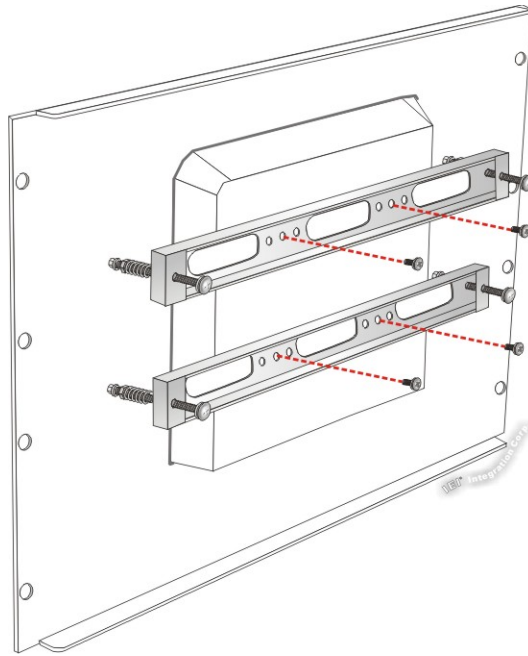

Figure 3-19: Securing Rack Mounting Brackets
Step 5: Secure the two rack mounting brackets to the rear of the panel PC by inserting the four retention screws into the VESA mounting holes and tightening them (**Figure 3-19**).